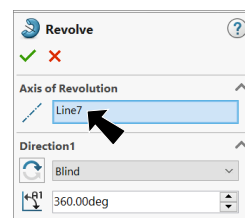

Fig. 5
Step 11. In the Revolve Property Manger set: under Axis of Revolution , **Fig. 5** construction line auto-selected click OK .